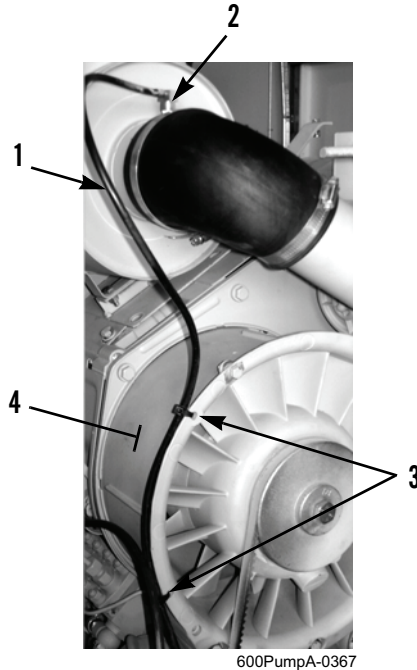

Figure 19. Tiedown Straps and Air Line.
17. Install air line (Figure 19, Item 1) and two new tiedown straps (Figure 19, Item 3) on cooling fan assembly (Figure 19, Item 4).
18. Install air line (Figure 19, Item 1) on air cleaner fitting (Figure 19, Item 2).